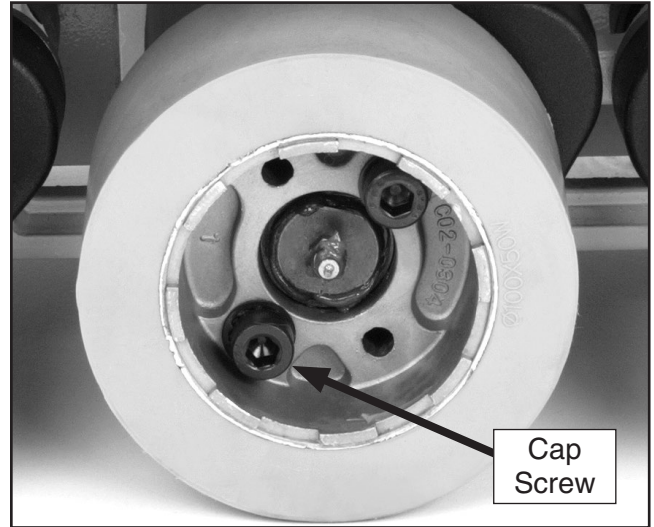

Figure 25. Wheel replacement.
2. Using a 5mm hex wrench, remove the two wheel retaining cap screws (see Figure 25).